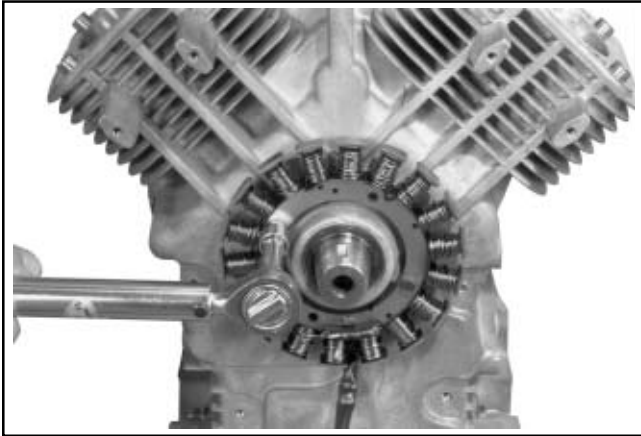

Figure 11-23. Torquing Stator Screws.
3. Install and torque the two hex. flange screws to **6.2 N·m (55 in. lb.)**. See Figure 11-23.